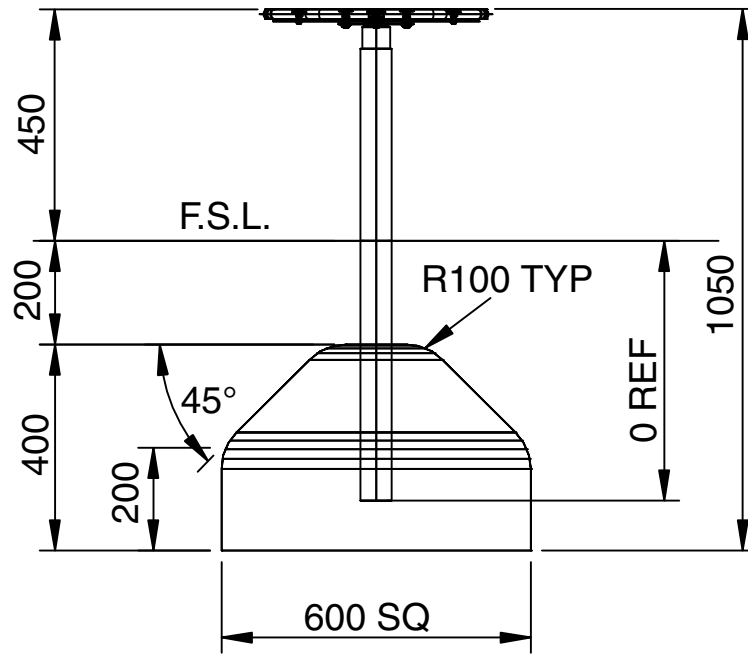

FIG.2
See FIG.2 for concrete foundation spacings.
- 1) Place Spinning Ground Assembly (item 2) into appropriate foundations and shim as required to ensure the Spinning Ground Assembly is plumb and square with the welded F.S.L. mark at the correct level. See FIG.2.